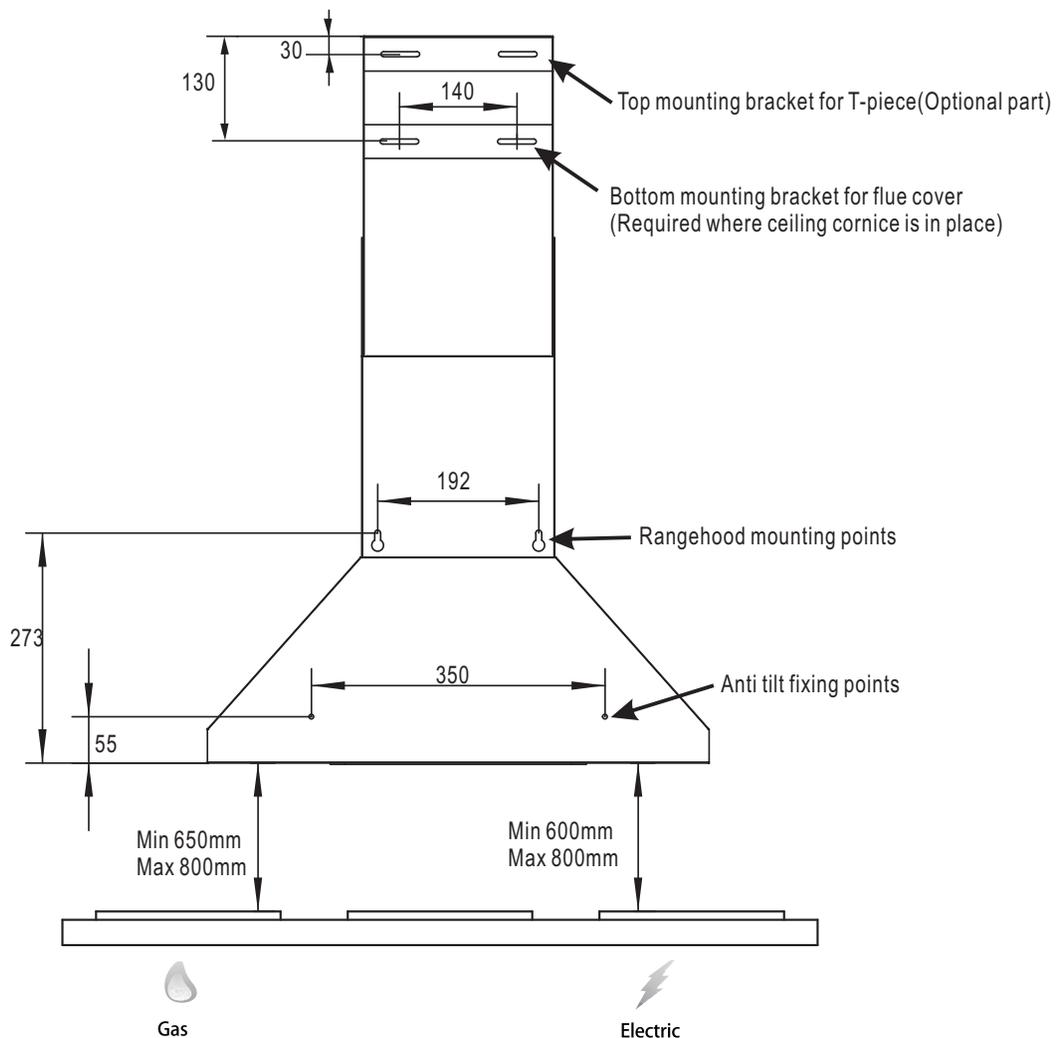
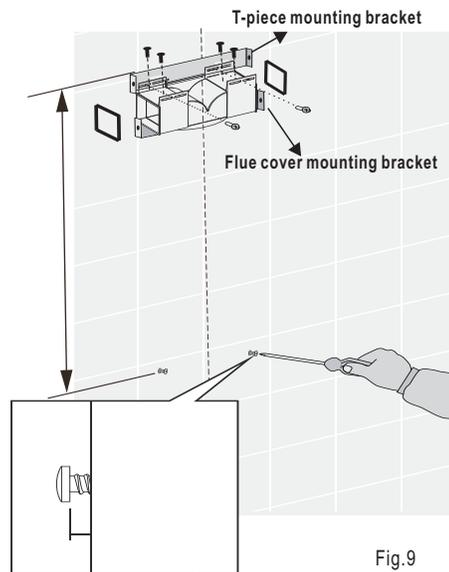
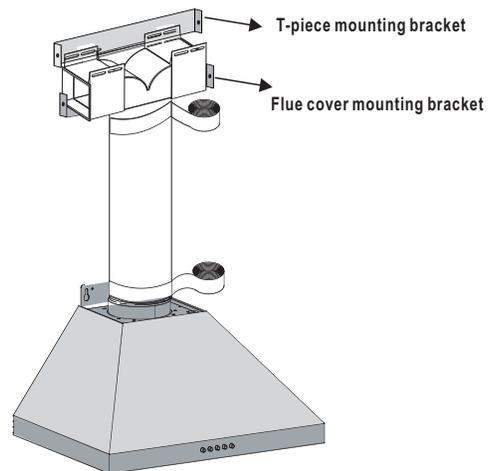

Fig.5
Fig.9
Fig.10
3. Install flue cover wall mounting brackets with suitable fasteners. Suitable fasteners must be used for rangehood mounting points. Refer to Fig.5 for dimensions. If installation is for recirculation mode refer to Item 6a and Fig.9.
## 6a. Recirculating mode(Fig.9)
Fix the T-piece to the top mounting bracket by using the 4 screws supplied as dimension indicated Fig 5. Adhere two sponge to the outlet of T-piece. Using the centre line, install the recirculating T-piece and mounting bracket to the wall. Install flexible pipe between T- piece and air outlet. Use cable ties or suitable duct tape to secure flexible pipe to T-piece and outlet of the hood.(Fig.10)